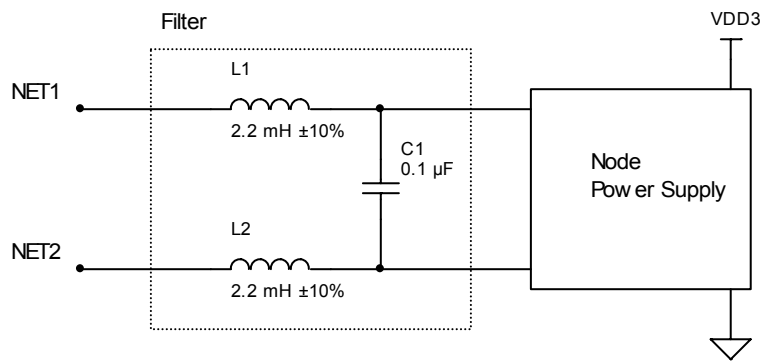

Figure 26. Node Power Supply Filter
For each powered device within your Pyxos FT network, you need to include an isolator filter circuit, as shown in **Figure 26**. The filter circuit is a simple inductor-capacitor (LC) filter that is designed to: